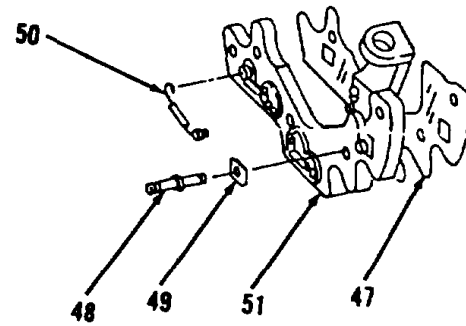

Figure 4-6.
- 22. Remove insulator (47, Figure 4-6).
- 23. Remove three studs (48) and insulators (49) from heat sink (51).